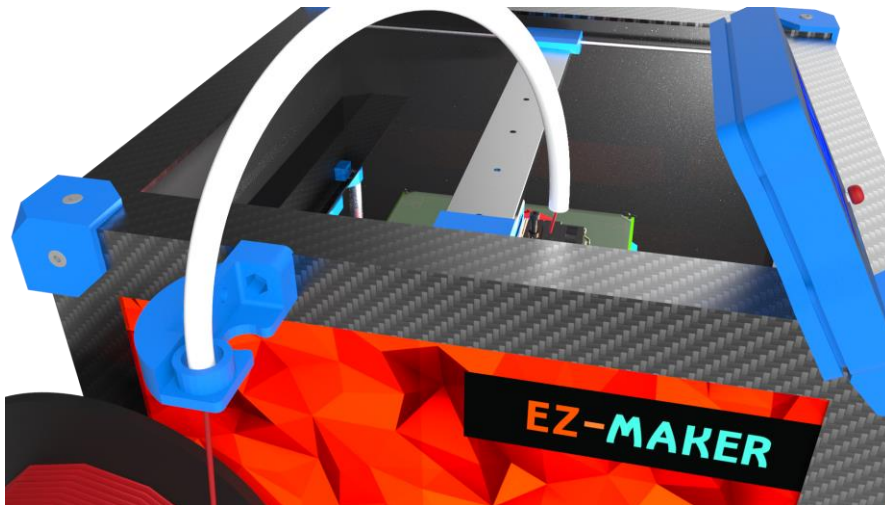

Figure 4.4: Filament run through the guide
4. Feed the end of the filament through the filament feed tube. Tube can be removed from the extruder by gently pressing the blue holder that sits on top of extruder. The Filament should now be threaded through the PTFE sleeve and exiting near the extruder (fig. 4.4).